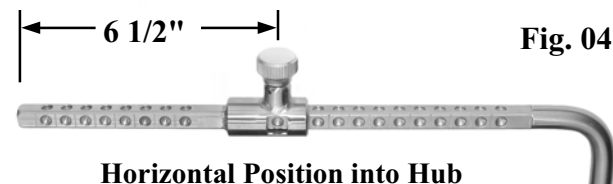
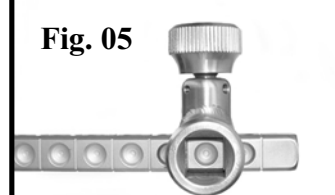

Fig. 04
Fig. 05
Back out (open) the non-removable Lock Knob until it stops (Fig. 02). The Crank Handle may be placed either to the right or left of the surgeon depending on preference. The Top Post has alignment marks and detents on the squared section for securing the Gearbox to the post. Slide the Ratchet onto Top Post to desired position between alignment marks. Placement of the Gearbox between alignment marks locates the Lock Knob directly over detent for proper tightening (Fig. 04). Tip of Lock Knob must completely insert into detent of Top Post to assure proper seating. Note opened and closed position of Lock Knob (Fig. 05 & 06). **CAUTION: Hand tighten Lock Knob and Spool Cap Nut securely** (Fig. 02).
**Horizontal Position Into Hub:** Extender Bar attached to Top Post positions ratchet over xiphoid area for direct upward lift of incision site (Fig. 04).
**With Armboard in place** Cross Square feature provides proper placement of ratchet to chest wall by mounting Rultract® System above or below the armboard (Fig. 05 & 06).